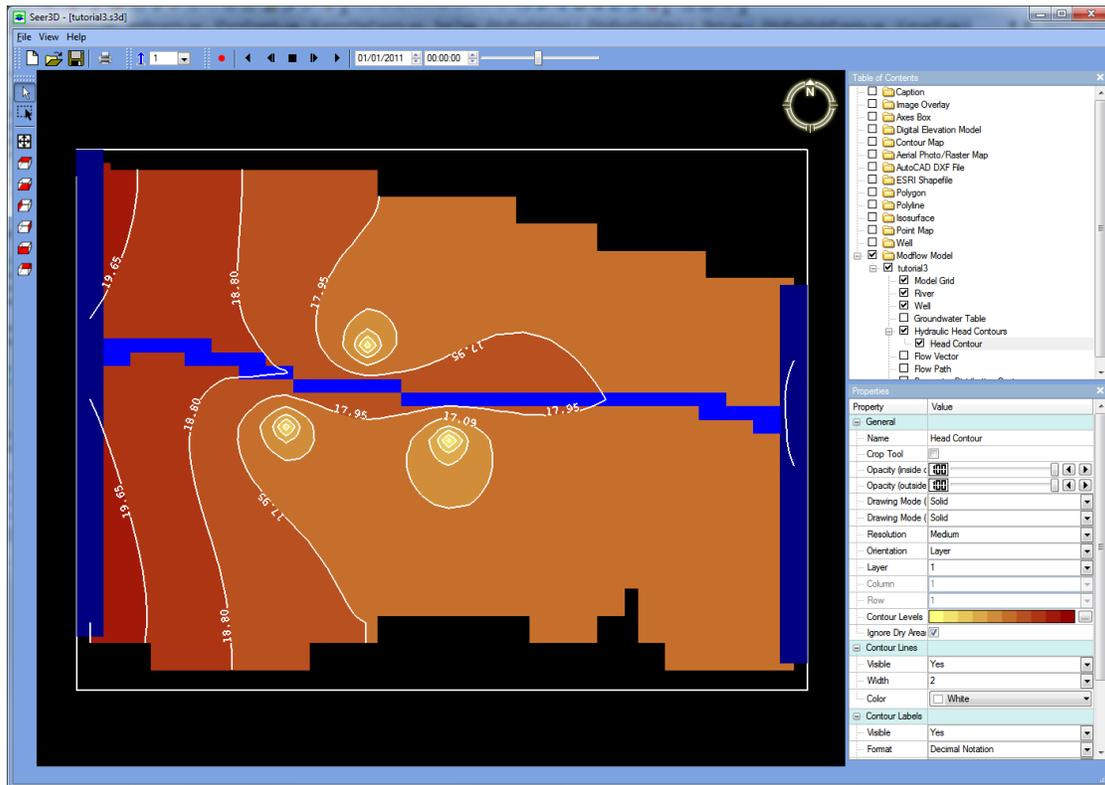

Figure 3.5. The Hydraulic Head Contours of a model
2. Select *Create New Object* from the popup menu. The head contours will be created with the default settings and a new item will be added to the *Hydraulic Head Contours* folder (Figure 3.5).